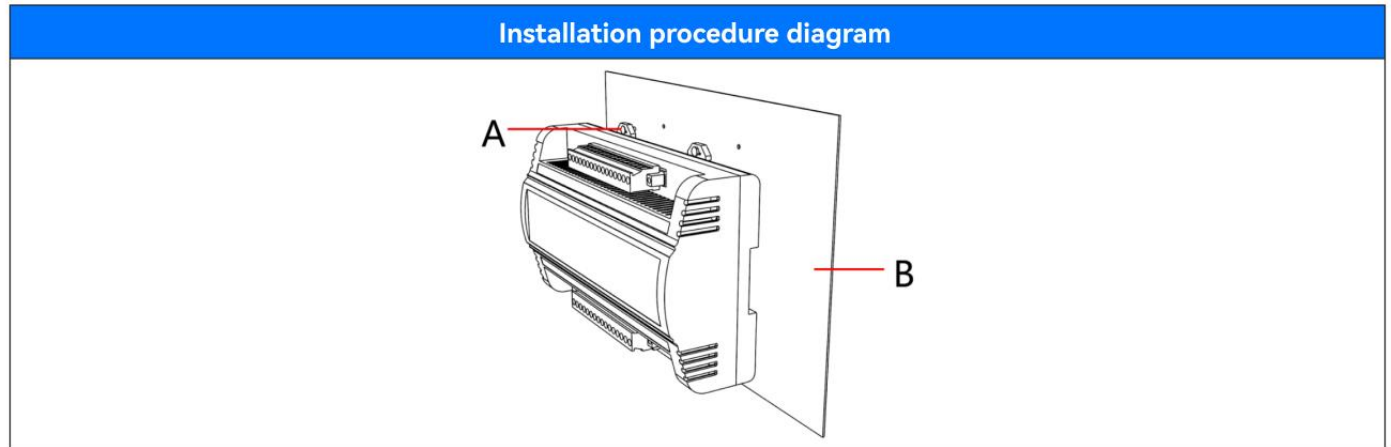

Figure 3.1
1. Select a suitable position on the inner bottom plate of the driver console and fix it horizontally with DIN35 guide rail; As shown in Figure 3.1, the main body of the rudder Angle distributor is installed on the mounting plate B and fixed on the guide rail through bayonet A to ensure stability and reliability.